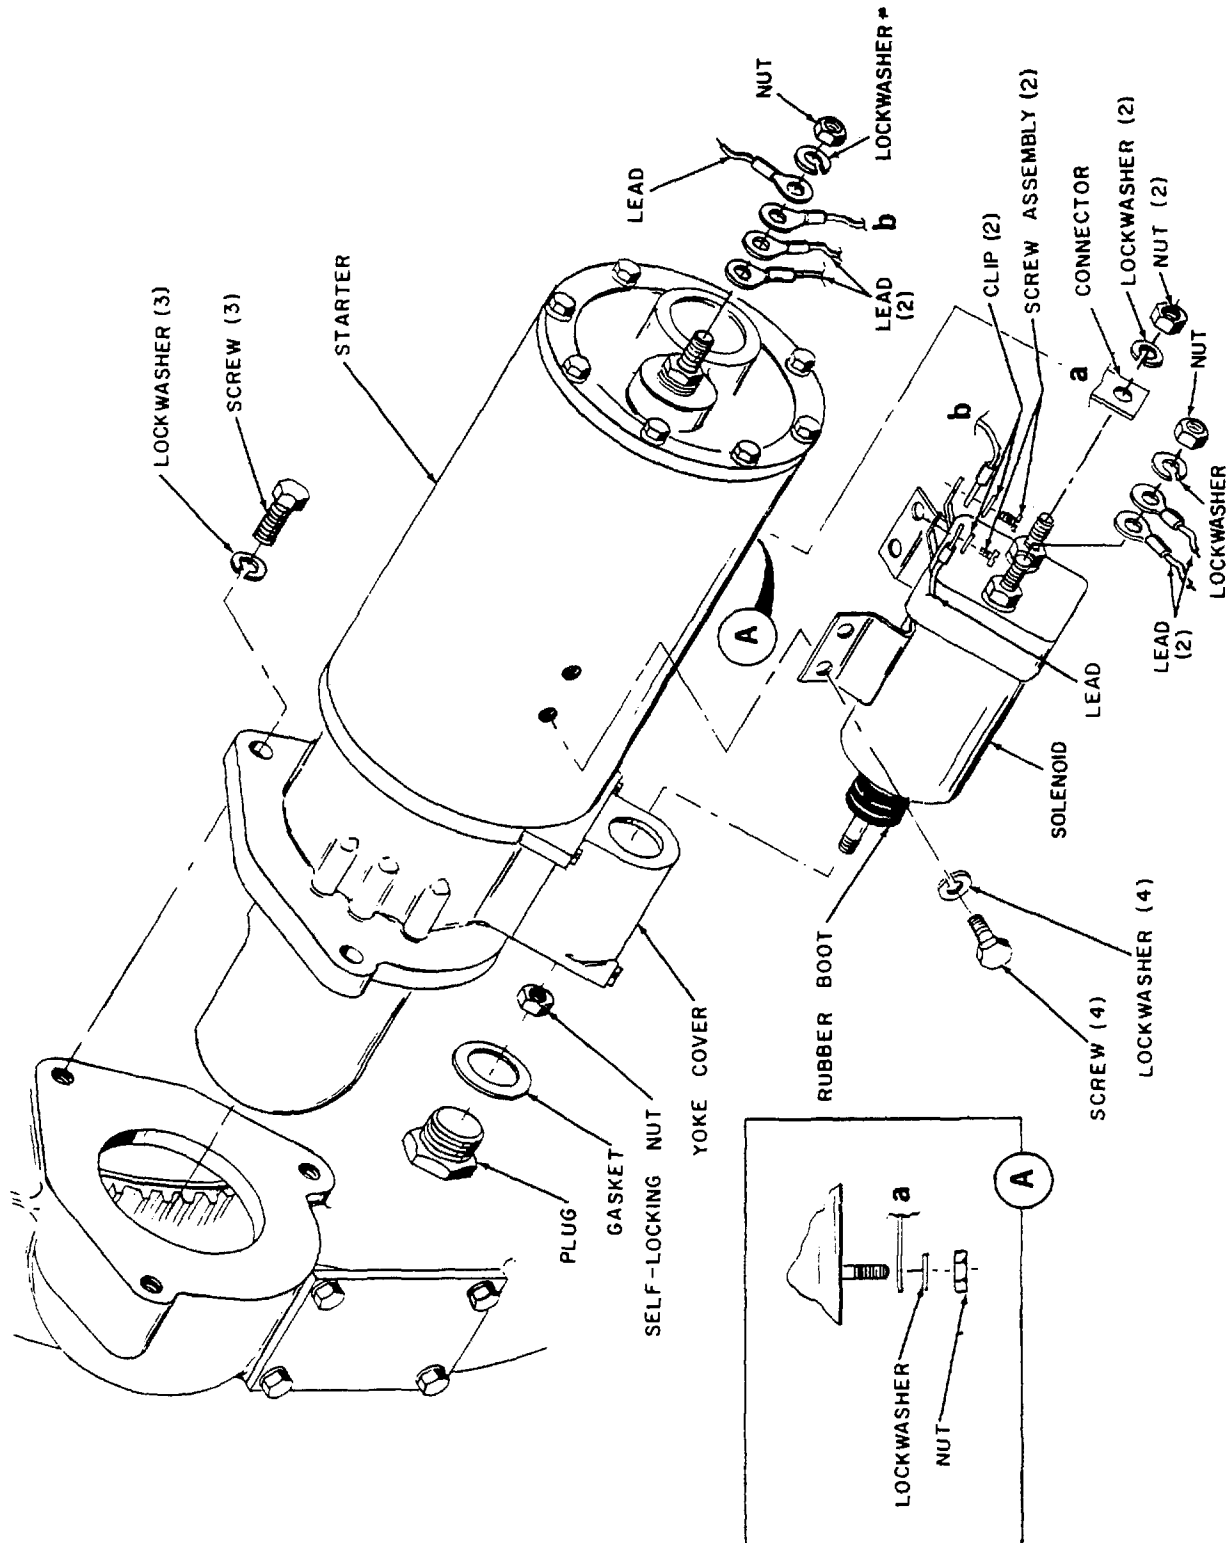

Figure 4-23. Starter and Solenoid, Removal and Installation
c. Removal. Remove starter and solenoid as illustrated in figure 4-23, observing the following:
(2) To disconnect self-locking nut from solenoid shaft, place a deep 1/2 inch socket on nut and place a 5/32 inch Allen wrench through socket drive into shaft. Hold shaft stationary with Allen wrench and remove nut by turning socket. Count number of turns to remove nut from shaft.
d. Installation. Install starter and solenoid as illustrated in figure 4-23, observing the following:
(1) Install solenoid on starter making sure rubber boot is on inside of yoke cover and over outside edge of solenoid case for proper seal.
(2) To connect self-locking nut to solenoid shaft, hold shaft with 5/32 inch Allen wrench and tighten nut same number of turns on shaft required for removal. Do not install plug and gasket at this time.
(3) Adjust drive assembly pinion clearance by performing steps
(4) through (7).
(8) Install plug and gasket in yoke cover, figure 4-23.
(9) Install starter and solenoid on engine.